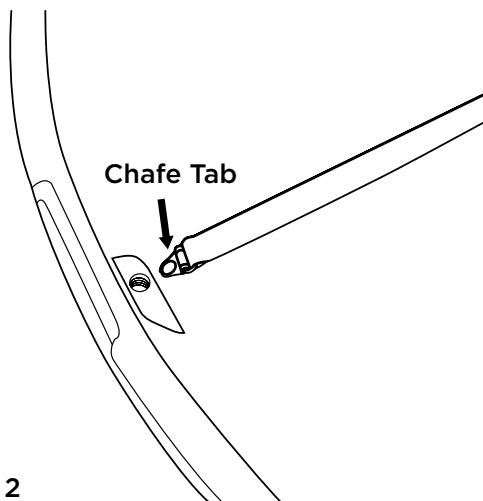

Fig. 2
- Secure the strap to the unit by inserting one of the screws provided through the hole in the chafe tab and into the insert in the front of the unit. **Fig. 2**